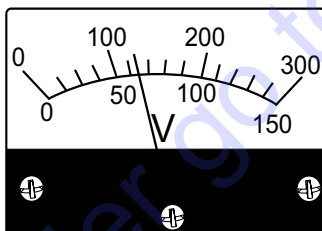

Figure 71. AC Voltmeter (120/240V)
4. Also verify that the AC voltmeter is registering a voltage reading as indicated by Figure 71.
- Verify that the AC voltmeter is registering a voltage reading as indicated by Figure 71.